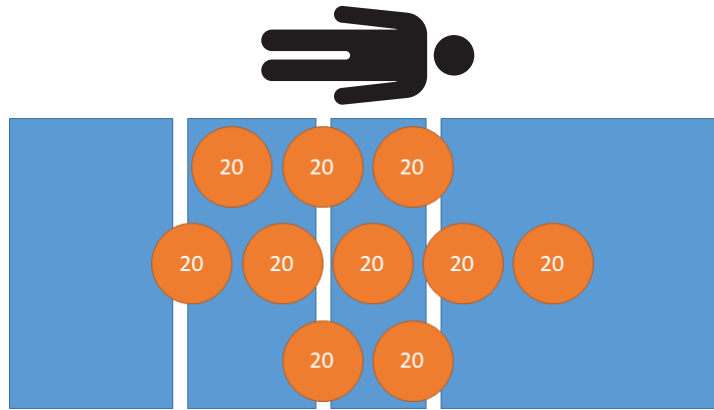

Figure 22 – Weigh performance test - 200 kg
5. Using calibrated weights, place 200 kg on the product (Figure 22).
7. Using calibrated weights, place 200 kg on the product (Figure 22).